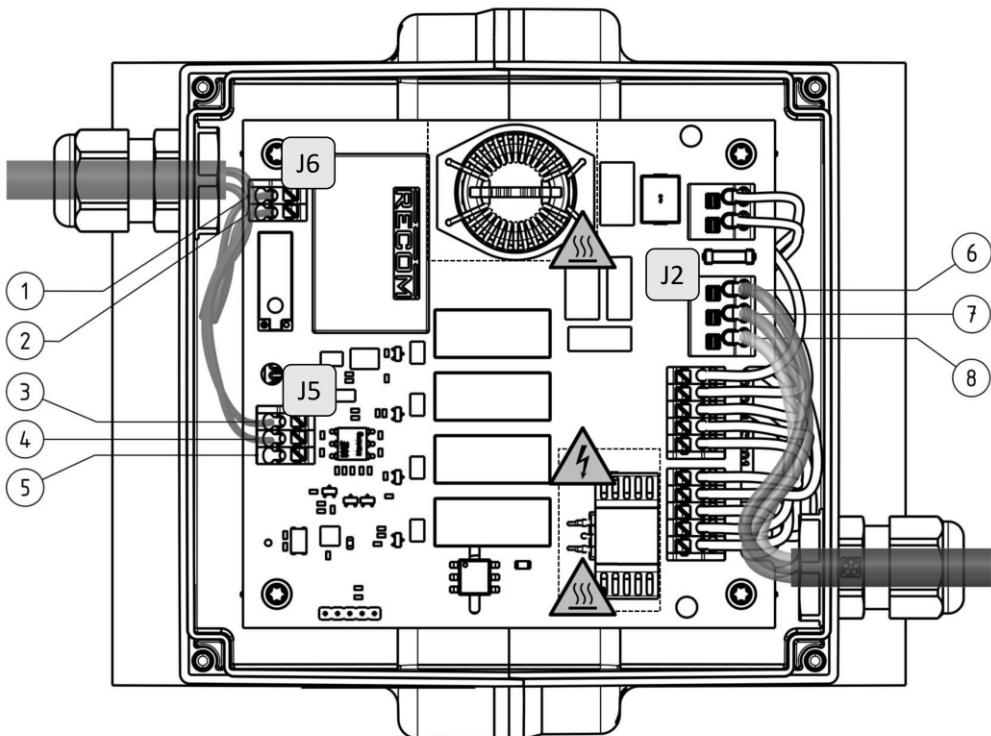

Figure 1: Board with examples of connection lines (deviations to the board equipment possible)
- ☞ When guiding the wire in the junction box, ensure that it does not touch any electrical components. There is a risk of the wire insulation being damaged by temperature! See figure 1
- ☞ Ensure that the cable insulation ends directly after the cable gland. See figure 1
2. Connect the cable to the voltage supply on the J2 connection terminal provided for this (L, N, PE). Observe figure 1
3. Connect the combined cable for the control signal and the error signal relay to connection terminals J5 and J6. Observe figure 1